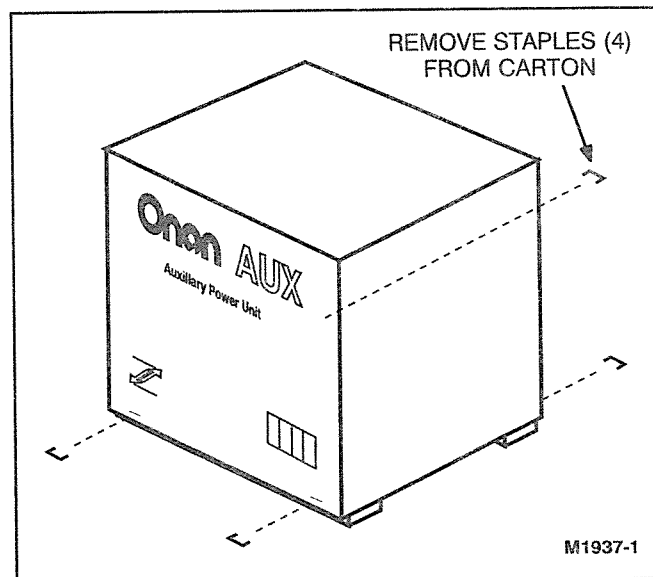

FIGURE 4-1. CARTON REMOVAL
1. Remove the shipping carton by pulling out the four long staples from the bottom corners (see Figure 4-1). Carefully lift the carton off the power unit and discard.